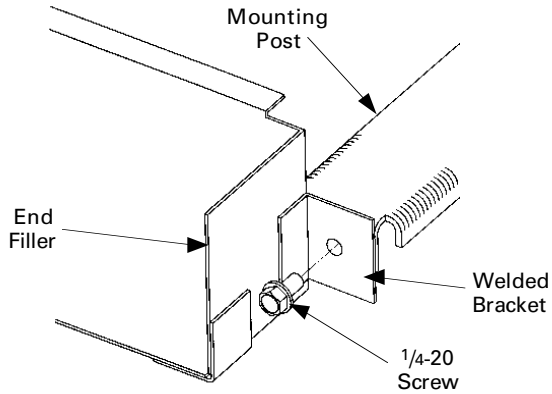

Figure 5. Installing the ends to the mounting post.
**27- and 31-inch-wide panels.** To replace or install the deadfront, first install the top and bottom ends to the mounting post, as shown in Figure 5. Tighten the 1/4-20 hex-head screws to 50–60 in-lb.